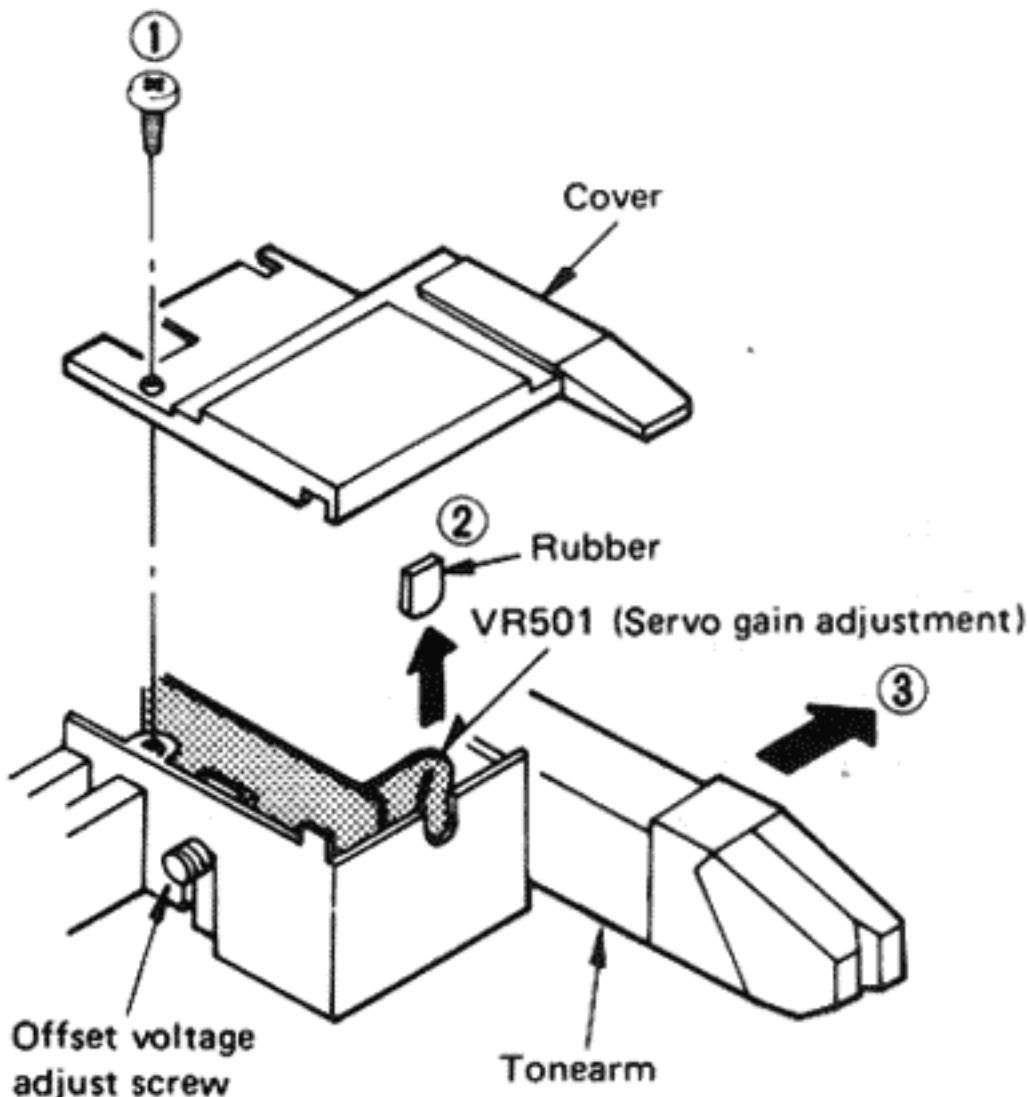

Fig. 4
- 2. Disassembly the tonearm as in Fig. 4.